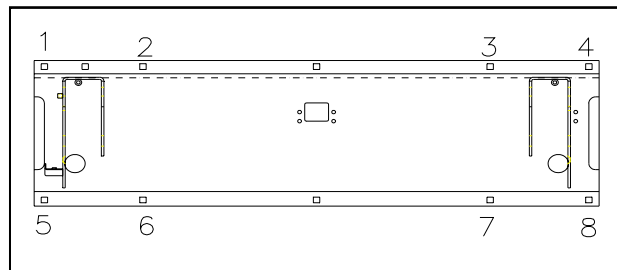

FIGURE 2-5: VAN BASEPLATE HOLES
- 1) Refer to **Figure 2-5**. Mark and drill four 25/64" baseplate assembly mounting holes (1, 2, 3, and 4) through vehicle floor. (On Dodge and GM vans, you must drill through vehicle floor and subframe).